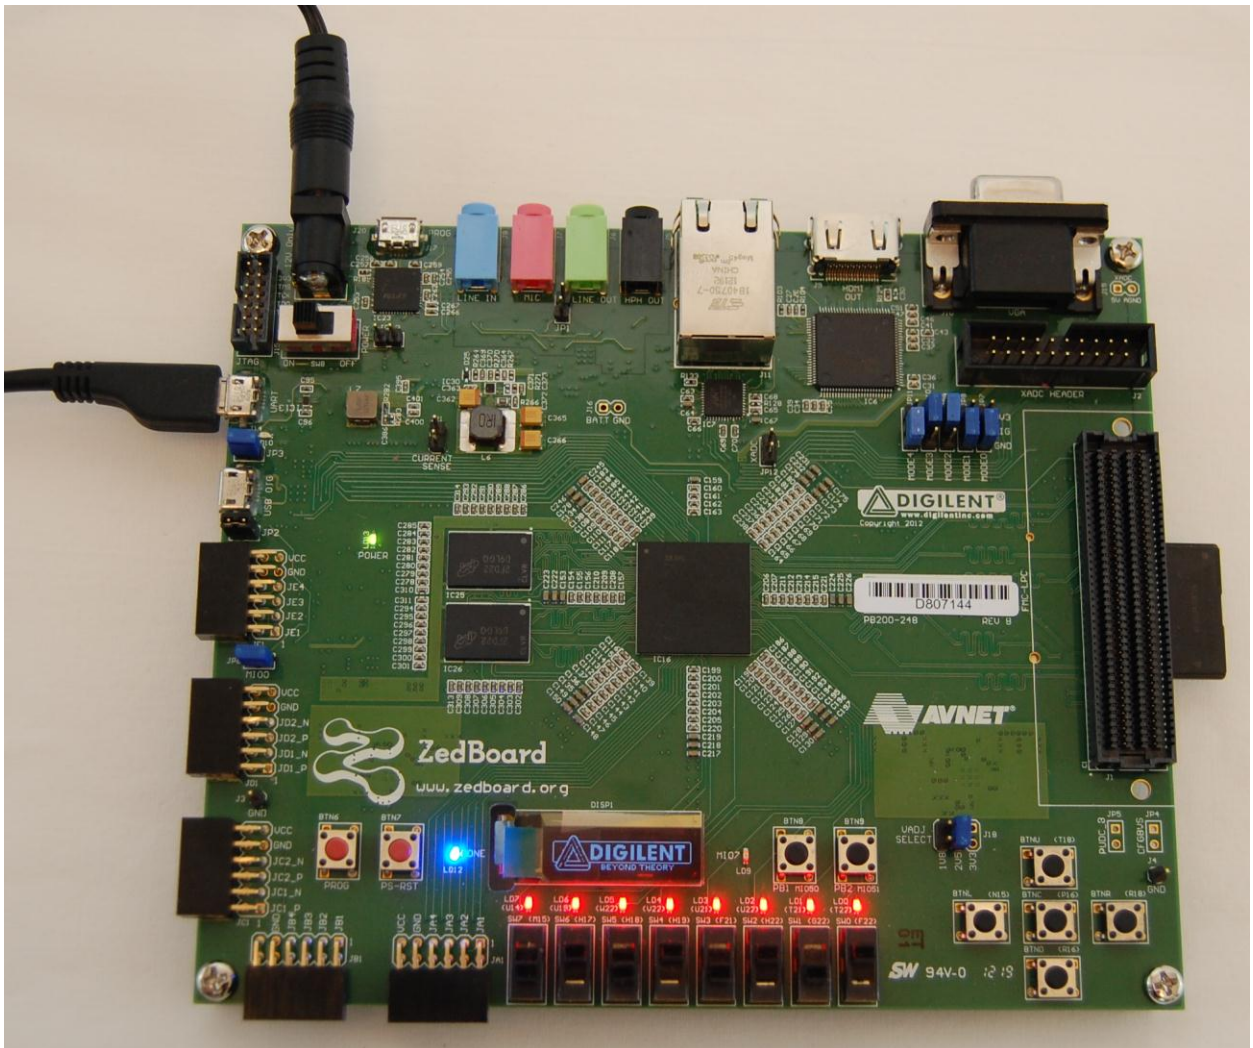

Figure 8 - ZedBoard Example LED Output
- A script for changing the state of the LEDs is also included. To set the state of the user LEDs (LD0-LD7), use the script `write_led` and specify the byte value to be written to the LEDs. For example, running the script `write_led 0xFF` or even the command `write_led 255` will result in each of the user LEDs LD0-LD7 illuminating as seen in Figure 8.